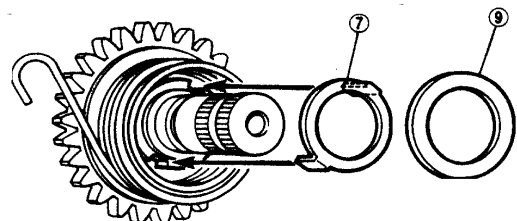

Figure 3
9. Refer to figure 3. Add the tabbed-washer (7) and washer (9) to the sub-assembly put together in step 1. Align the two tabs on tabbed washer plate (7) with the two indents in the spacer (4).